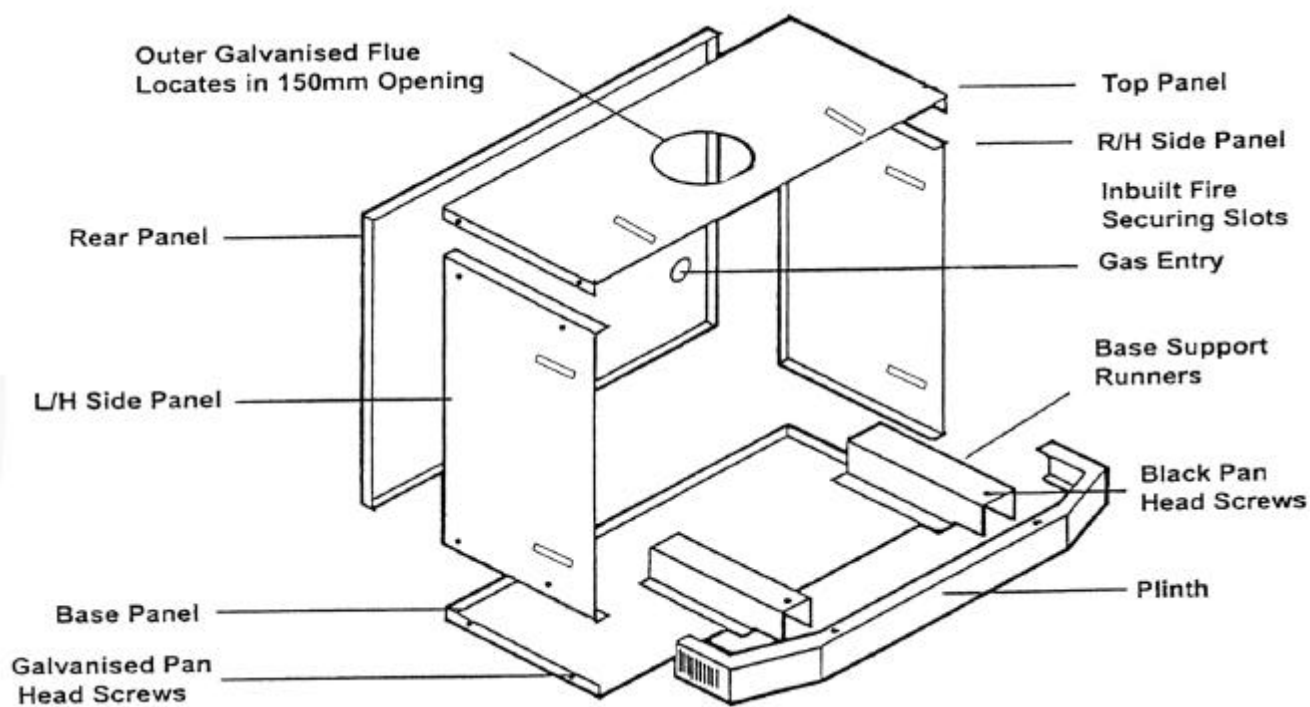

Figure 2
2. Stand Side Panels on inside of base panel with fold to the back as shown in Figure 2.
1. Attach Base Support Runners to Plinth as in Figure 2. Sit fire on Base Support Runners and slide Fire into position.